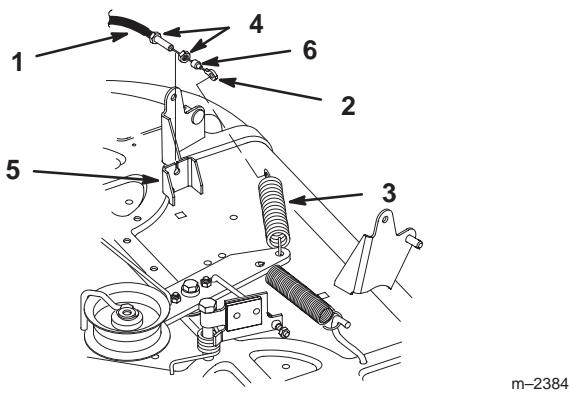

Figure 39
6. Unhook the PTO cable ring end from the idler spring (Fig. 39).
7. Remove the rubber wiper and jam nut from the PTO cable at the mounting bracket. Slide the cable from the bracket (Fig. 39).